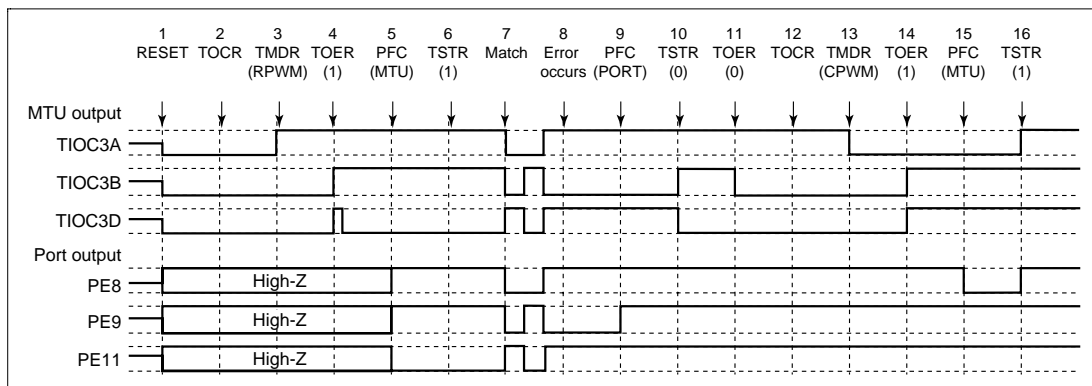

Figure 12.123 Error Occurrence in Reset-Synchronous PWM Mode, Recovery in Complementary PWM Mode
(27) Operation when Error Occurs during Reset-Synchronous PWM Mode Operation, and Operation is Restarted in Complementary PWM Mode: Figure 12.123 shows an explanatory diagram of the case where an error occurs in reset-synchronous PWM mode and operation is restarted in complementary PWM mode after re-setting.